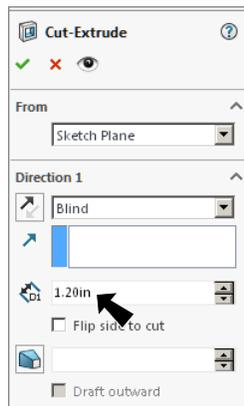

Fig. 31
Step 12. In the Cut-Extrude Property Manager set: under Direction 1, **Fig. 31**